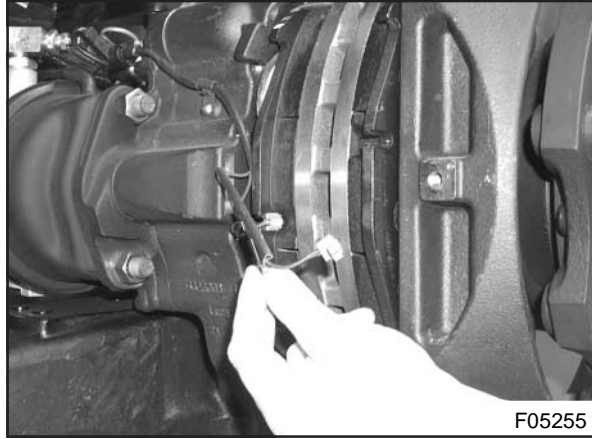

Figure 31 : Wear indicator removal
6. Remove and discard the old wear indicators with leads and plug (see Figure 31).